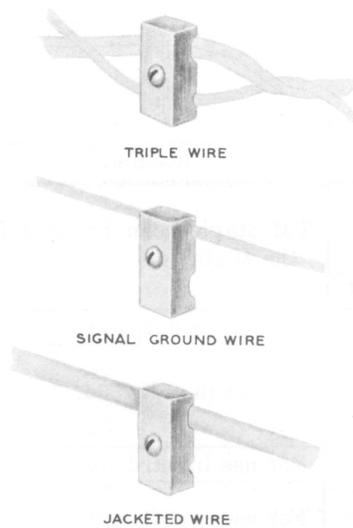

Fig. 5 - Inside Wiring Cleats
3.06 *Inside wiring cleats* (Fig. 5)